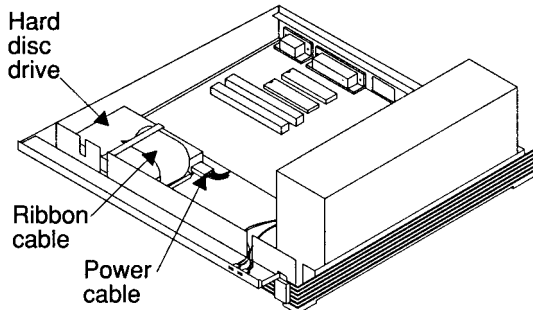

Figure 1 The Risc PC's hard disc drive and cables (steps 1 and 2)
- 1 Identify the power cable that connects the hard disc drive to the power supply (see *Figure 1* below). Label it for future reference. Then disconnect it from the hard disc drive by gently pulling it away from the drive.
- 2 Identify the ribbon cable that connects the hard disc drive to the main board (see *Figure 1*). This is not used when the CD-ROM upgrade is fitted. Remove it as follows: